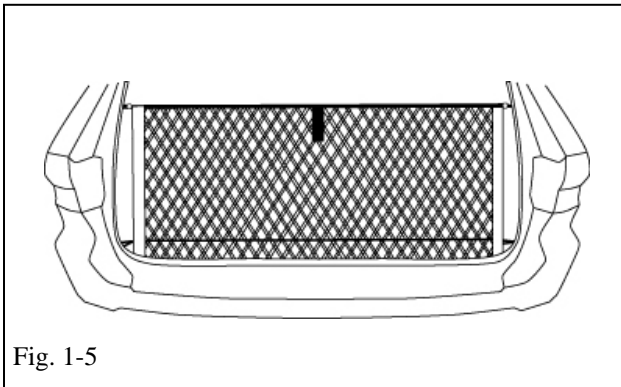

Fig. 1-5
-  (g) Confirm completed assembly. Make sure net handle is facing out toward the rear of the vehicle (Fig. 1-5).